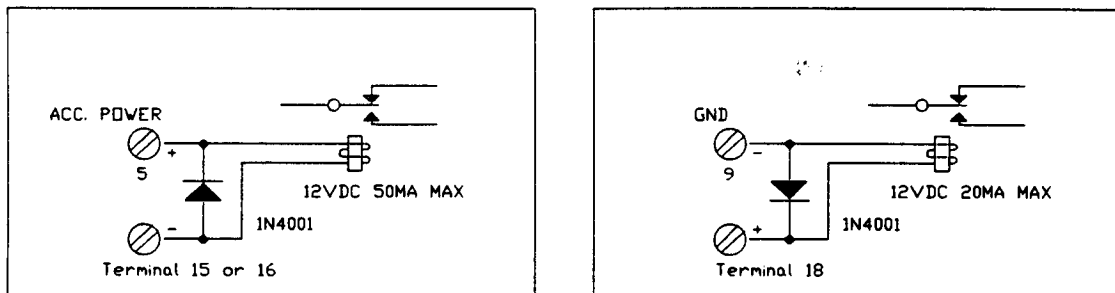

FIGURE 8.5.1B: CONNECTIONS TO TERMINALS 15, 16 AND 18
1. **Model 4720 panel terminals 15, 16 and 18.** Terminals 15 and 16 are open collector outputs that sink current when activated (negative voltage; -12 V_{DC}, 50 mA max.). Terminal 18 functions as a current source when activated (positive voltage; +12 V_{DC}, 20 mA max.). Figure 8.5.1B shows how each of these terminals would be connected to an output device.